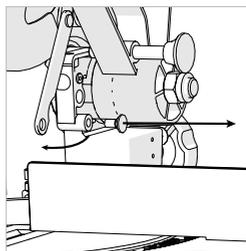

Fig. 24
- Remove the lower guard operating arm from the machine by removing the pivot screw. **(Fig. 24)** Store this screw safely for future use.